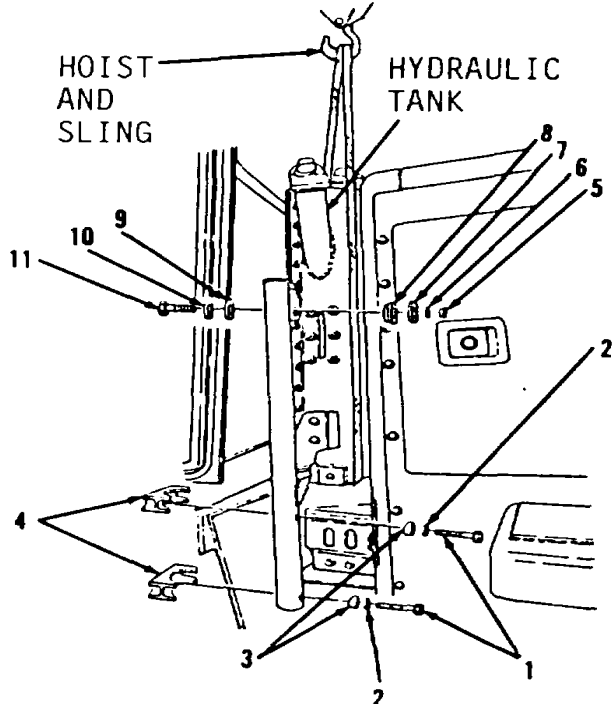

Figure 10-150.
- 4. Install bolt (11), washers (10 and 9), mounting (8), washers (7 and 6) and nut (5, Figure 10-150). Tighten nut (5) to 40 ft-lb torque.
- 5. Install two blocks (4), spacers (3), washers (2) and bolts (1).